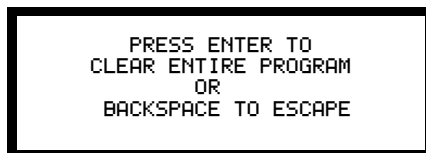

Figure 55 Clear Program Screen
1. From the Program Change screen (Figure 53), press the 0 key. The Clear Program screen displays a verification prompt as shown in Figure 55: